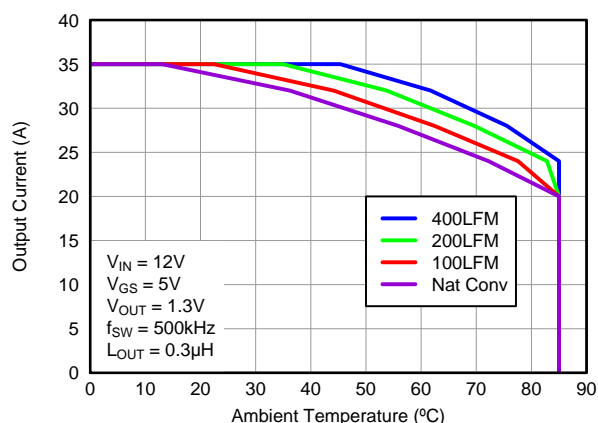
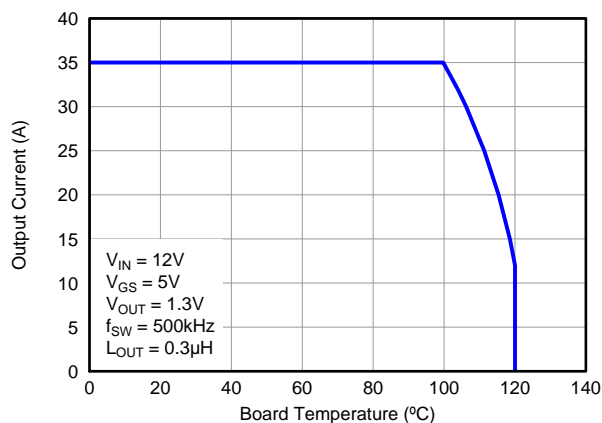

Figure 3. Safe Operating Area – PCB Vertical Mount⁽¹⁾
Figure 5. Typical Safe Operating Area⁽¹⁾
The SOA curves in the CSD87351ZQ5D data sheet provides guidance on the temperature boundaries within an operating system by incorporating the thermal resistance and system power loss. Figure 3 to Figure 5 outline the temperature and airflow conditions required for a given load current. The area under the curve dictates the safe operating area. All the curves are based on measurements made on a PCB design with dimensions of 4" (W) x 3.5" (L) x 0.062" (T) and 6 copper layers of 1 oz. copper thickness